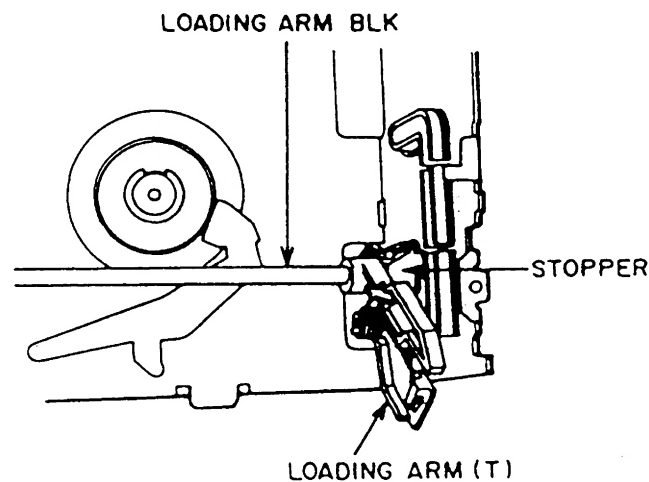

Fig. 3-2
- 1) Release the stopper on the right side end of the LOADING ARM BLK's shaft (Refer Fig. 3-2) by pressing the stopper tab with a flat head (—) screwdriver. Then remove the shaft's right end from the bracket.